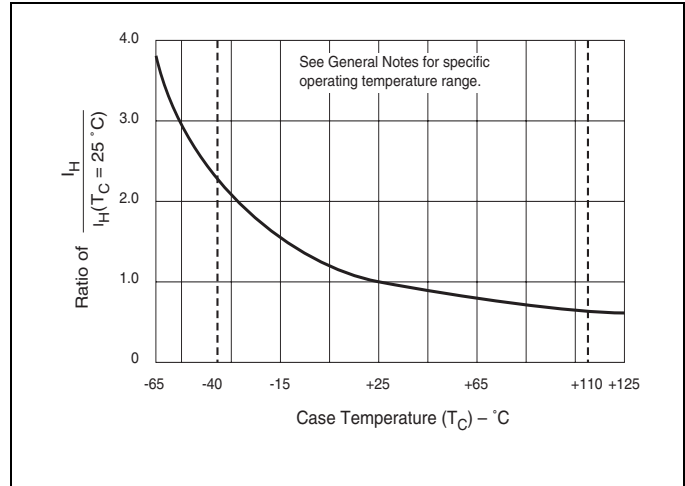

Figure E5.13 Normalized DC Holding Current versus Case Temperature
- (5) See Figure E5.13 for IH versus TC or TL.